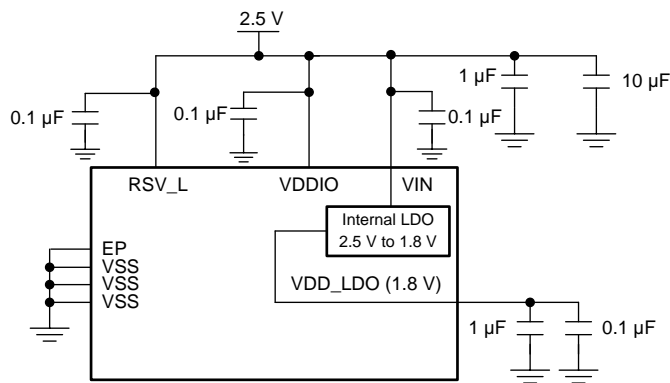

Figure 24. Single 2.5 V Supply Mode - Compatible with LMH1219
- Single 2.5 V Supply Mode:** This mode offers ease of use and pin compatibility with the LMH1219 (11.88 Gbps Ultra-HD Adaptive Cable Equalizer with Integrated Reclocker). The internal circuitry receives power from the on-chip 1.8 V regulator. In this mode, 2.5 V is applied to VIN, VDDIO, and RSV\_L. This mode supports SPI or SMBus serial interface. See Figure 24 for more details.